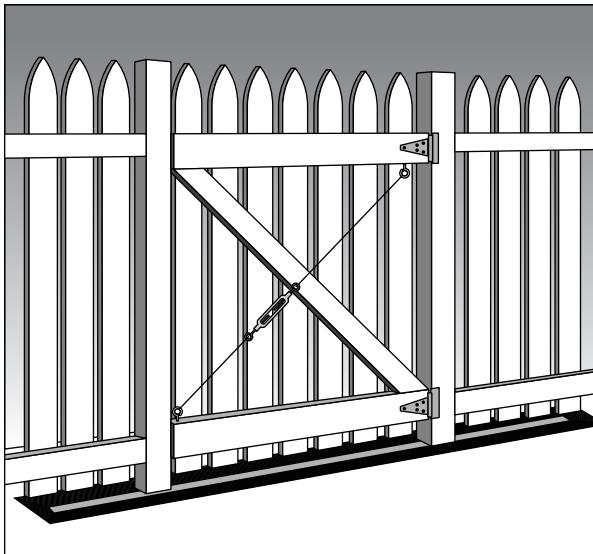

Figure 18-3:
3. **Attach cables to each corner bracket and then to the two ends of a turnbuckle (see Figure 18-3).**